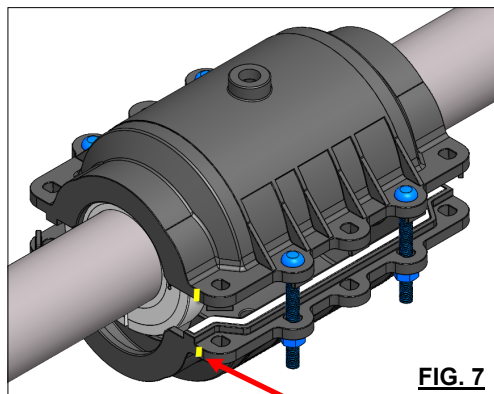
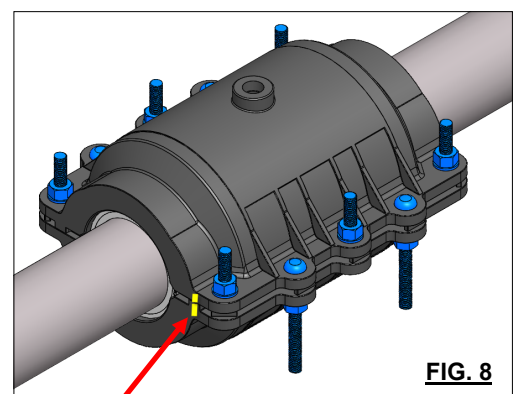

FIG. 7
FIG. 8
Step 5. Raise up the lower shell and install the nuts onto the starter bolts (See Fig. 7). Draw up the lower half by tightening the starter bolts evenly. Once the fitting halves have been drawn together, install the remaining bolts. (See Fig. 8)